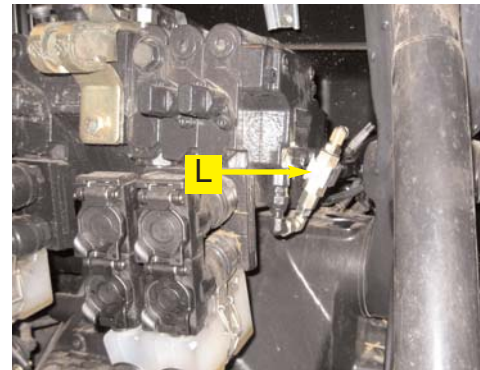

Figure 4c. Installed load sense shuttle.
- c. Disconnect the load sense line from the valve stack. (Figure 4c. and 4d.)
- d. Attach the center male fitting (**P**) from the pre-assembled load sense shuttle, in step **4a**, to the line removed from the valve stack. (Figure 4c. and 4d.)
- e. Attach the female fitting (**N**) on the pre-assembled load sense shuttle, in step **4a**, to the valve stack. (Figure 4c. and 4d.) Leave the load sense shuttle connections loose to allow for easier installation and secure after all connections are made.